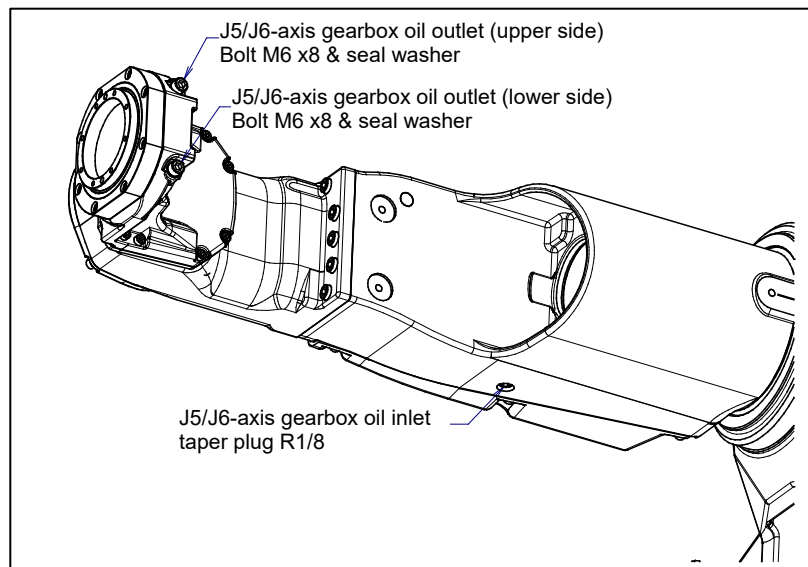

Fig. 7.3.2.7 (a) Oil inlet and outlet
- 4 Remove two bolts and washer of oil outlet. Then remove the taper plug of the oil inlet. (See Fig. 7.3.2.7 (a)) In this time, if you remove bolt of oil inlet firstly, you can prevent spilling oil on surroundings.